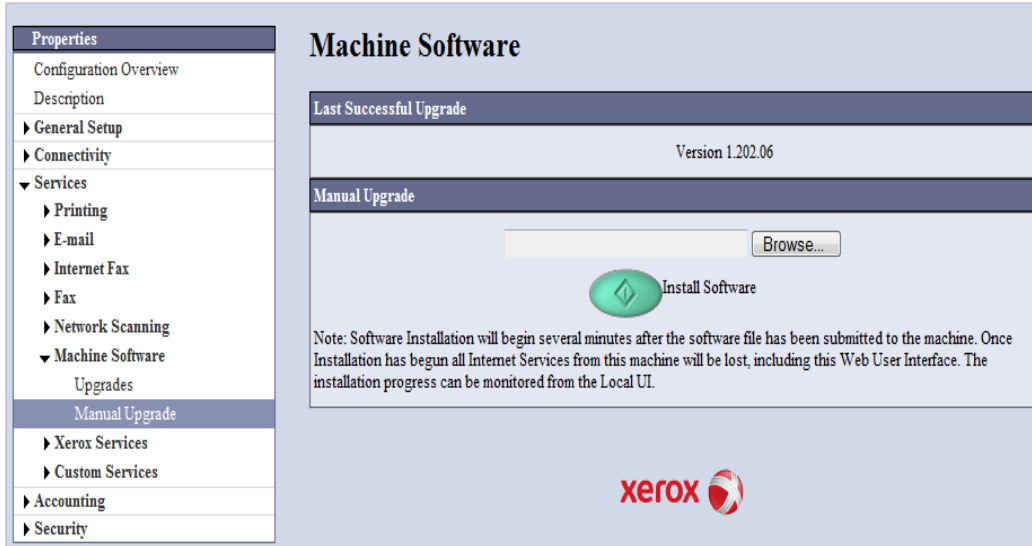

Figure 5
5. Select the Properties tab → Services → Machine Software → Manual Upgrade. The following screen will appear. (Figure 5)